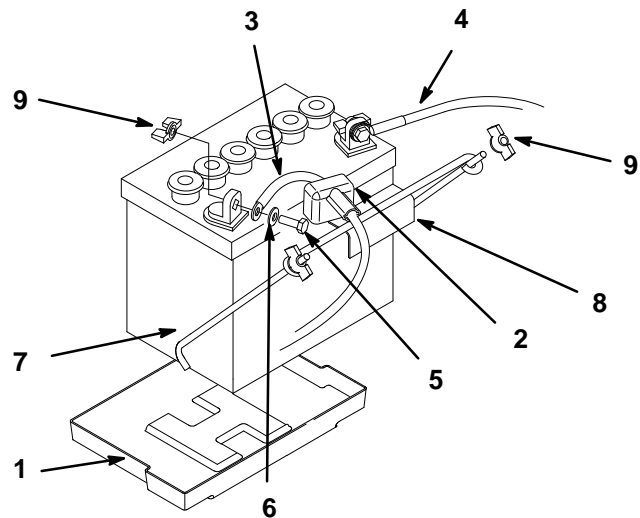

Figure 4
- Position battery in tray with terminal posts toward the engine (Fig. 4).
- Install the positive (red) battery cable to positive (+) battery terminal then negative battery cable to the negative (-) battery terminal. Secure cables with (2) 1/4 x 3/4" (19 mm) bolts 1/4" washers, 1/4" lock washers and 1/4" locknuts.
- Secure battery with (2) support rods, a battery clamp and (2) 1/4" wing nuts. Position support rods in mounting holes (Fig. 4). Tighten wing nuts so battery is held securely in position and will not slide. **DO NOT OVERTIGHTEN.**